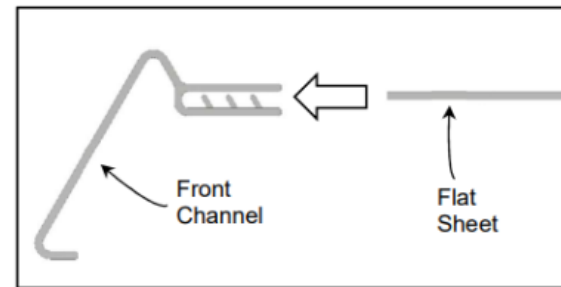

Figure 2
2. Slide the Flat Sheet into the groove of the Front Channel. Ensure the flat sheet is positioned with the magnets or tape on the underside (See Figure 2).